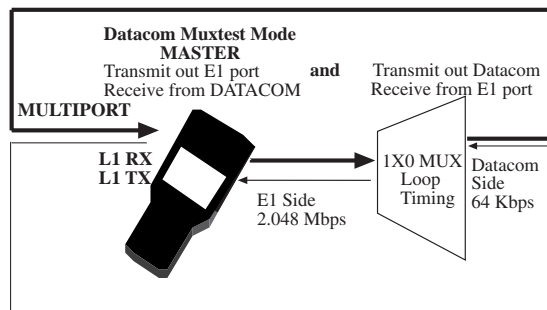

Figure 116 MUXTEST Setup
- 1) Connect the SunSet E20 according to the Figure 116, E20 MUXTEST Setup.